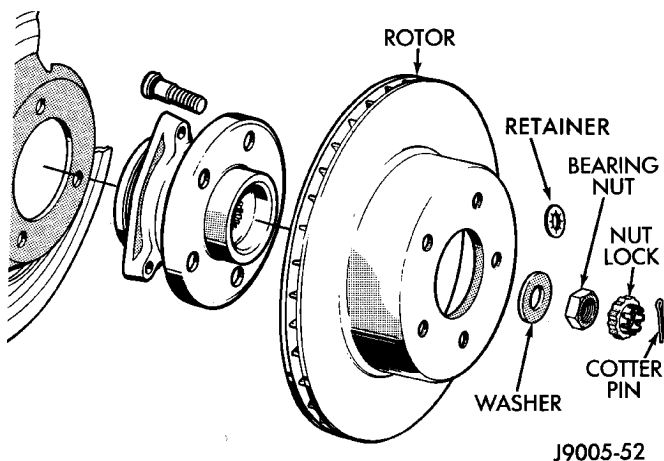

Fig. 35 Rotor & Hub
- (1) Remove wheel and tire assemble.
- (2) Remove caliper.
- (3) Remove retainers securing rotor to hub studs (Fig. 35).
- (4) Remove rotor from hub.
- (5) If rotor shield requires service, remove front hub and bearing assembly.